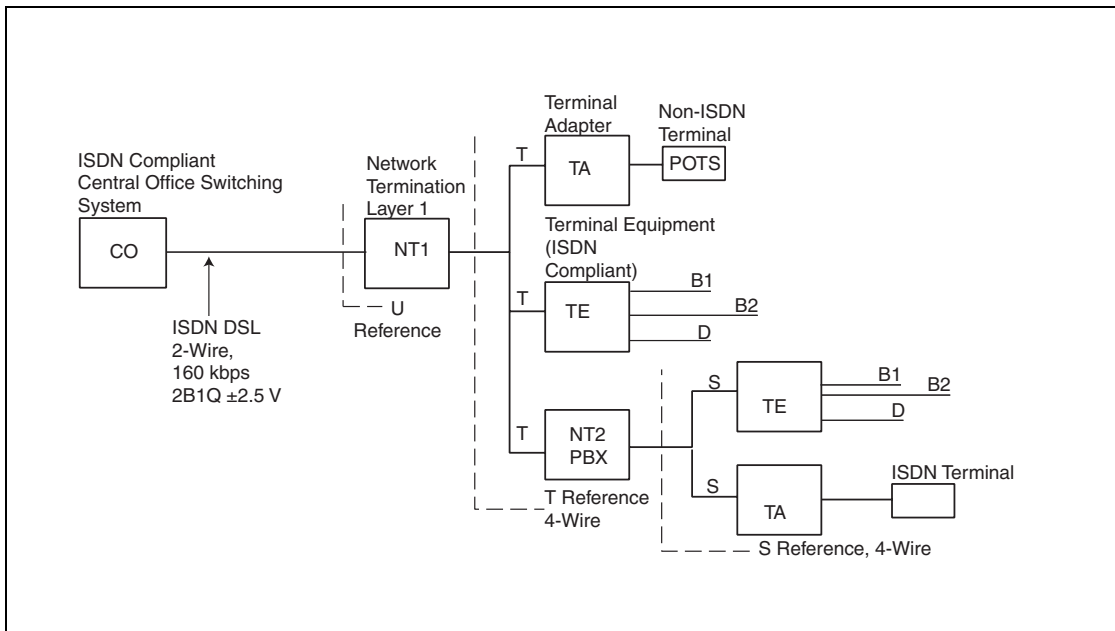

Figure 3.11 ISDN Overview
Integrated Services Digital Network (ISDN) circuits require protection at the Network Termination Layer 1 (NT1) U-interface and at the Terminating Equipment (TE) or Terminating Adapter (TA) S/T interface. Signal levels at the U-interface are typically  $\pm 2.5$  V; however, with sealing currents and maintenance loop test (MLT) procedures, voltages approaching 150 V rms can occur. (Figure 3.11)